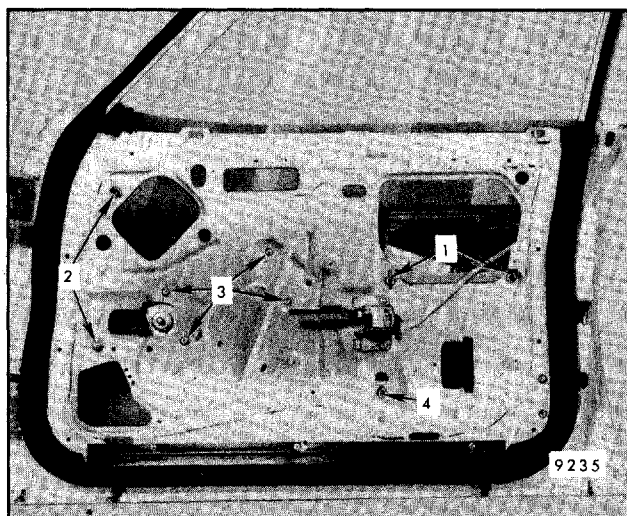

Fig. 5-111-Window Hardware - B, C Styles (Sedan Door Shown, Coupe Door Similar)
1. **WINDOW ROTATED** - Remove armrest, trim panel and water deflector. Adjust inner panel cam (1, Fig. 5-111) as required, then tighten attaching screws to 8 N·m (72 in-lb). On B 4-door styles, it is possible to gain access to cam adjusting screw by removing armrest only; then tearing perforated portion out of insulator (if so equipped) and water deflector from clearance slot in trim panel above remote handle to expose cam adjusting screw.
2. **WINDOW TOO HIGH OR LOW IN DOWN POSITION** - Remove armrest, door trim panel and water deflector. Adjust down stop (4, Fig. 5-111) and tighten attaching screw to 8 N·m (72 in-lb).
2. With window raised, remove front run channel retainer (2, Fig. 5-111) and inner panel cam (1, Fig. 5-111).